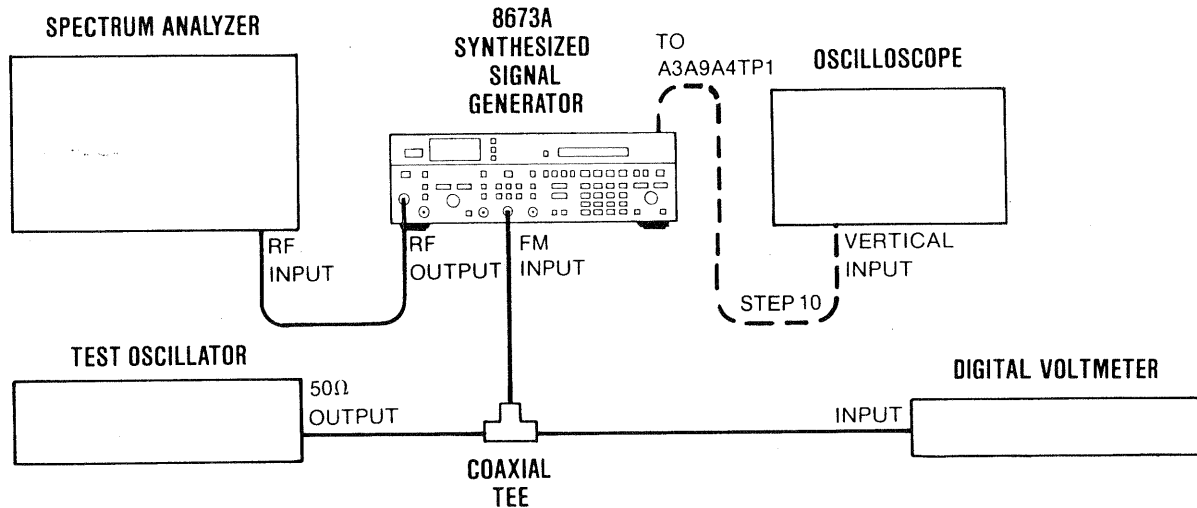

Figure 5-10. YTO Loop Offset and FM Overmodulation Adjustment Test Setup
4. Connect the equipment as shown in Figure 5-10. Connect the Signal Generator's mains power cord and set the LINE switch to ON.